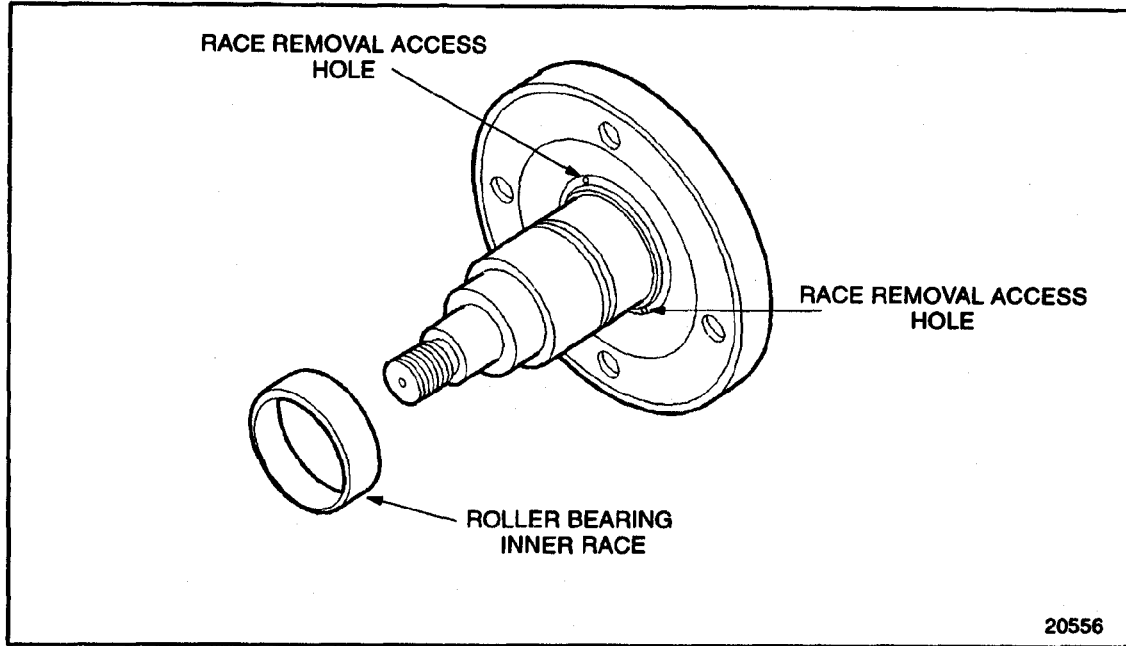

Figure 10-23 Bearing Inner Race Removal
21. Using a punch and hammer, work through the two access holes to drive the roller bearing inner race from the air compressor drive shaft. See Figure 10-23.